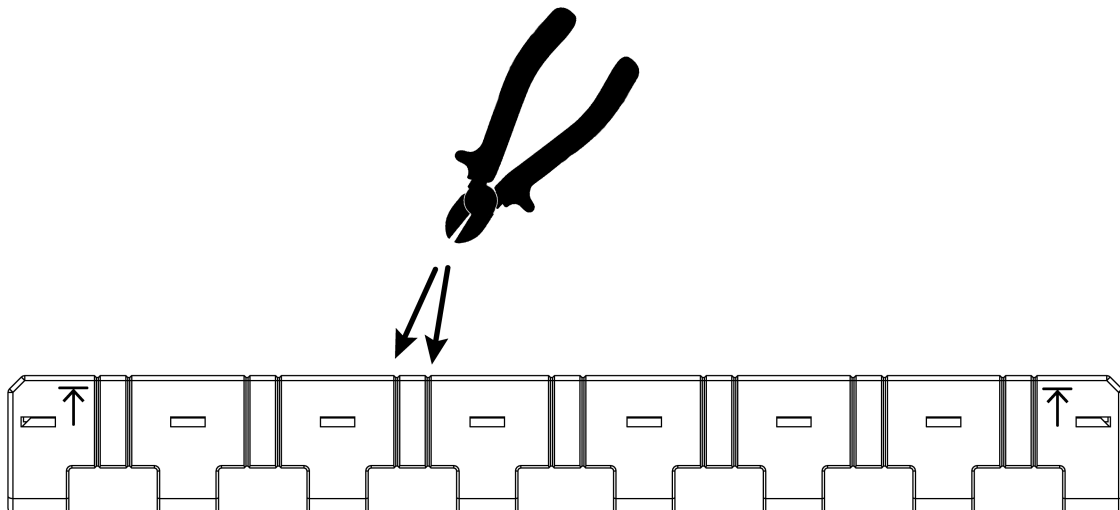

Figure 4: Shortening the phase busbar
- If necessary, cut the phase busbar at the notches using diagonal cutting pliers (see figure 4).